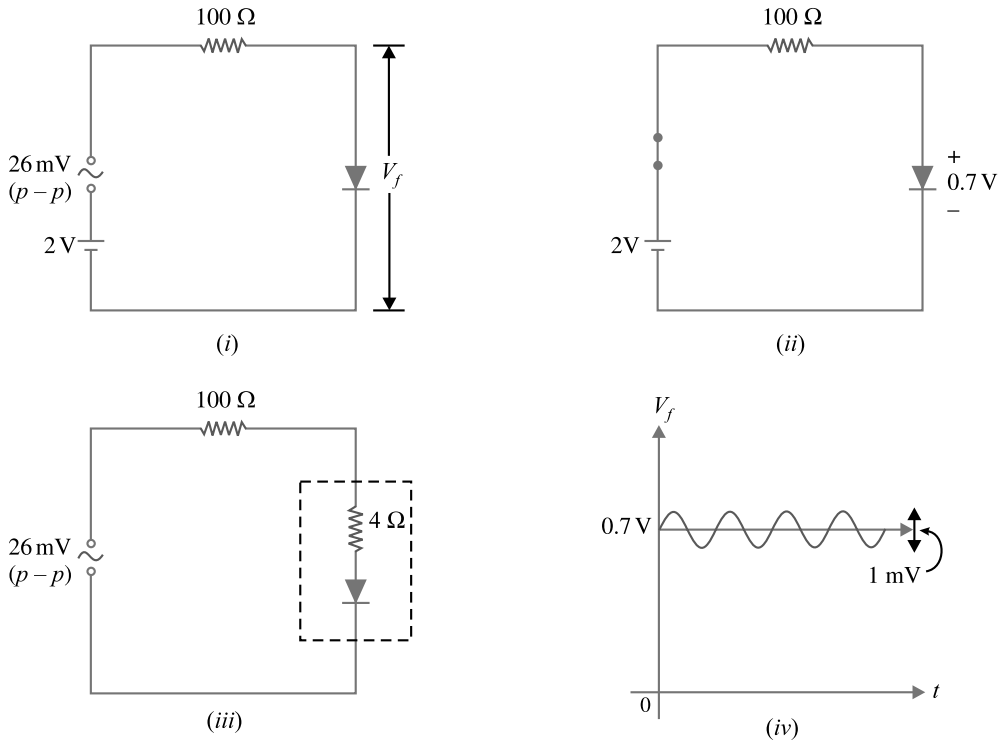

Fig. 4.25
**Example 4.22.** Determine the voltage across the silicon diode for the circuit shown in Fig. 4.25 (i). Assume that forward d.c. resistance of the diode is zero and forward a.c. resistance is  $4\Omega$ .
**Solution.** The 2 V d.c. level ensures that the diode is always forward biased. In order to find the voltage across diode due to d.c. voltage (2 V), consider the d.c. equivalent circuit shown in Fig. 4.25 (ii). Since it is a silicon diode, the forward voltage drop  $V_F = 0.7$  V and the remaining 1.3 V drops across 100 Ω resistor.
In order to find voltage across diode due to a.c. voltage [26 mV (p-p)], consider the a.c. equivalent circuit shown in Fig. 4.25 (iii). Therefore, forward a.c. voltage across the diode
Therefore, voltage  $V_f$  across diode will be 0.7 V with an a.c. voltage of 1 mV peak to peak superimposed on it as shown in Fig. 4.25 (iv).